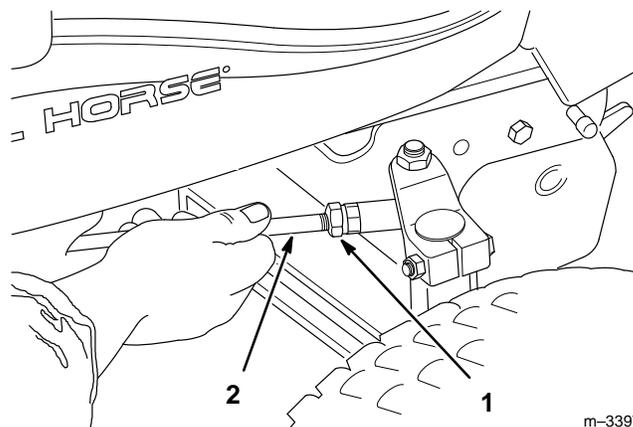

Figure 41
1. Loosen the jam nuts at the ends of the steering rods (Fig. 41).